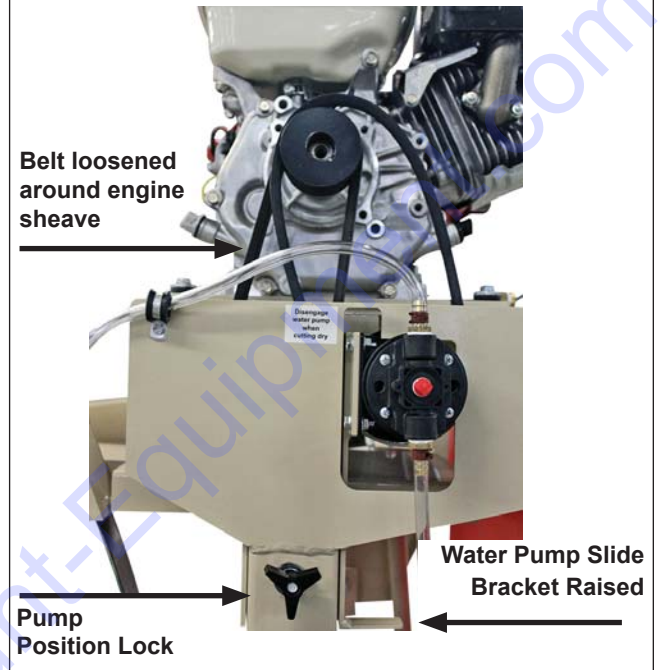

Figure 8
- Disengage water pump by loosening the pump position lock. (Figure 8)